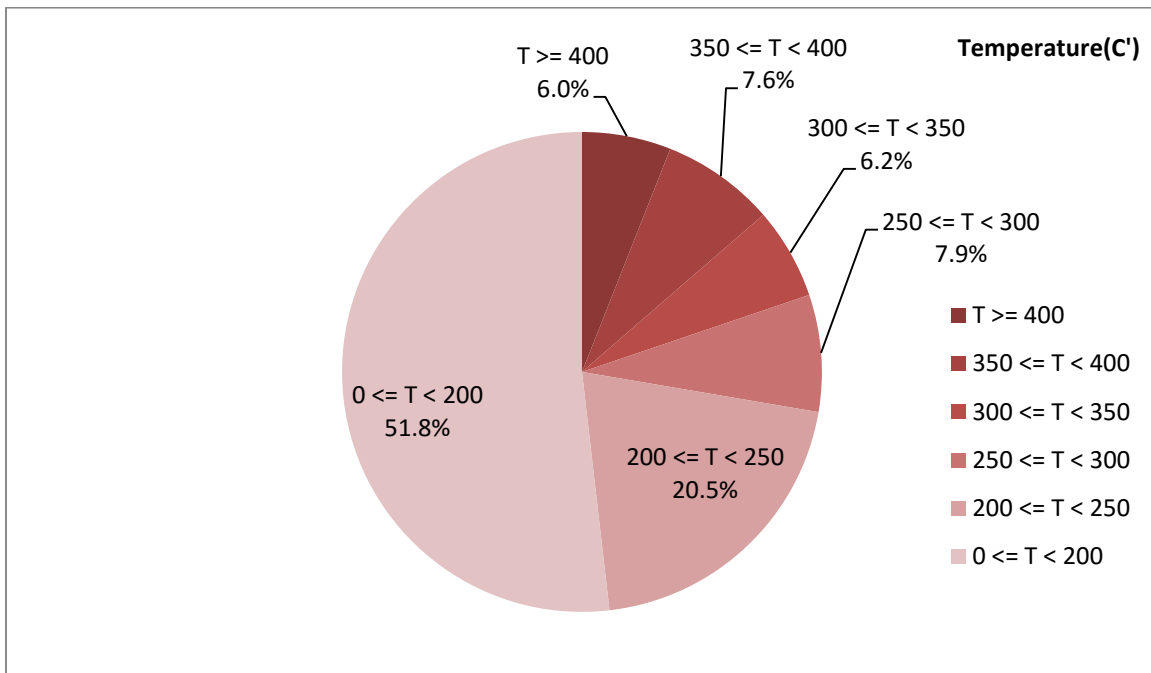

Figure 2-Temperature distribution over the working hours
- Figure 2 display flow temperature distribution for DPF's upstream. It can be obviously observed that 13.6% of total working-time temperature is above 350 °C and 27.7% above 250°C.